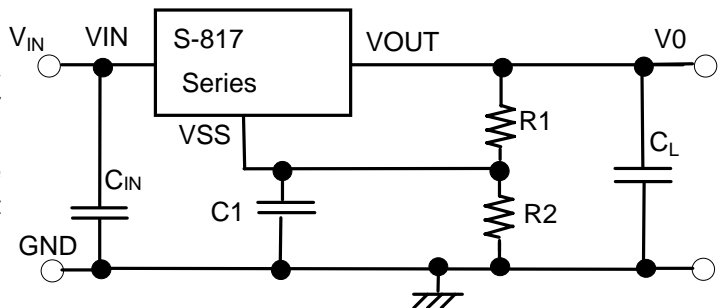

Figure 11 Voltage Adjustment Circuit
The output voltage can be boosted by using the configuration shown in Figure 11. The output Voltage V_O can be calculated using the following equation (V_{OUT} (E):Effective output voltage):